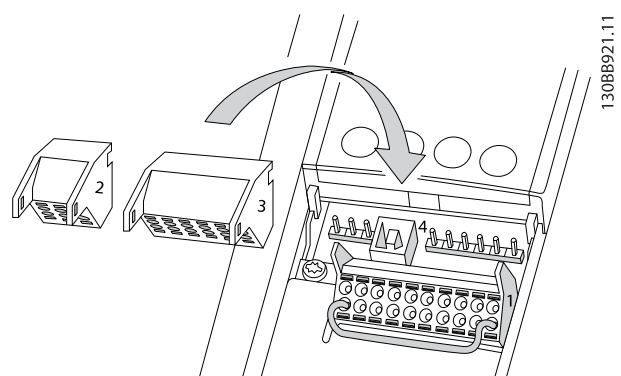
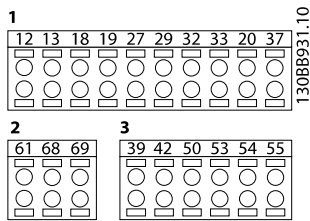

Figure 4.14 Control Terminal Locations
Figure 4.15 Terminal Numbers
- When the frequency converter is connected to a thermistor, ensure that the thermistor control wiring is screened and reinforced/double insulated. A 24 V DC supply voltage is recommended. See *Figure 4.14*.
Figure 4.14 and *Figure 4.15* show the removable frequency converter connectors. Terminal functions and default settings are summarised in *Table 4.2*.